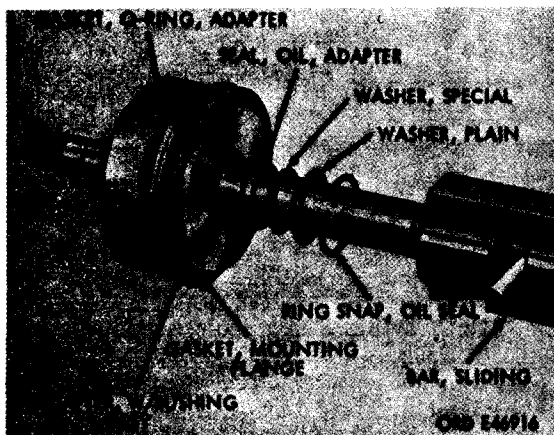

Figure 150. Adapter oil seal assembly
- (4) Remove oil seal snap ring, plain and special washers, and adapter oil seal from adapter with bushing assembly. Figure 150 illustrates proper sequence of seal components. Remove adapter O-ring gasket and mounting flange gasket.
- (2) Inspection and repair. Inspect all precision finished surfaces for burrs or damages. Place piston on sliding bar and work back and forth in the cylinder. Piston should work freely and smoothly. The adapter oil seal (fig. 150) must have a snug fit on the sliding bar. Inspect integral lever block and integral lever block pin (fig. 135) for excessive wear. Refer to serviceability standards (par. 128).
- (1) Press new adapter bushing (X) into adapter, leaving bushing flush with face of adapter.
- (2) Install new adapter oil seal (MM), special washer (W), plain washer (NN), and oil seal snap ring (V) in adapter bore in the sequence as illustrated in figure 150. Install new adapter O-ring gasket (KK) on adapter assembly.
- (3) Thoroughly clean piston ring groove and install piston ring (Z) on piston (JJ).
- (4) Slide adapter with bushing assembly (Y) on the sliding bar (U) and position piston (JJ) on sliding bar. Install plain